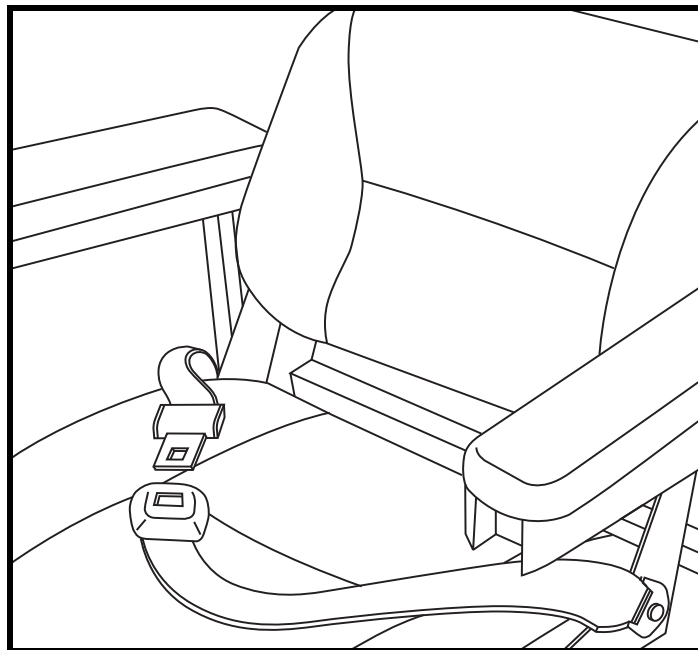

Figure 21. Positioning Belt Adjustment
Your power chair may be equipped with a positioning belt that can be adjusted for operator comfort. **See figure 21.** The positioning belt is designed to support the operator so that he/she does not slide down or forward in the seat. The positioning belt is not designed for use as a restraining device.
1. Once seated, insert the metal tab on one side of the belt into the plastic housing on the opposite side until you hear a click. **See figure 21.**